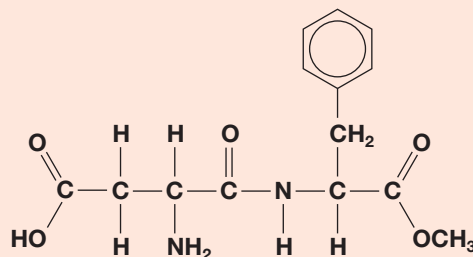

Figure 5.8 ▲
- 8 a) Identify the functional groups in the sweetener, aspartame (Figure 5.8).